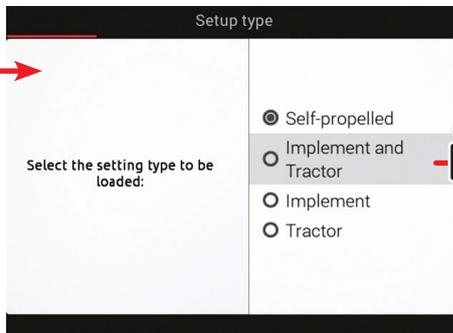

Fig. 35
- 2 From the example in Fig. 35 select the type of setup to load, and press **OK**.